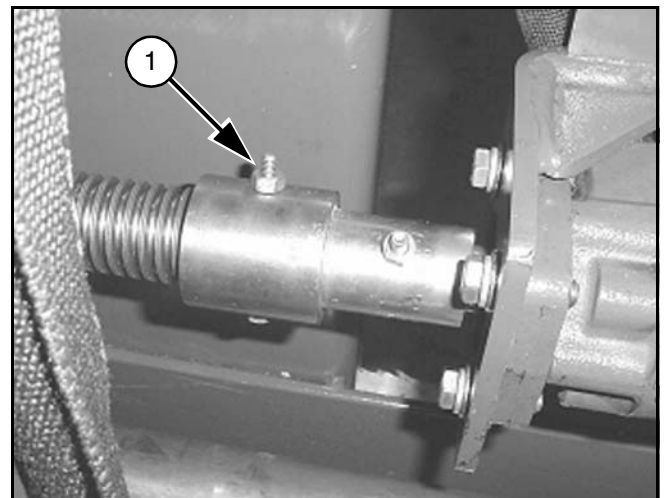

Figure 4
2. Remove 1/4" bolts (1) and (2) as shown in Figures 4 and 5.